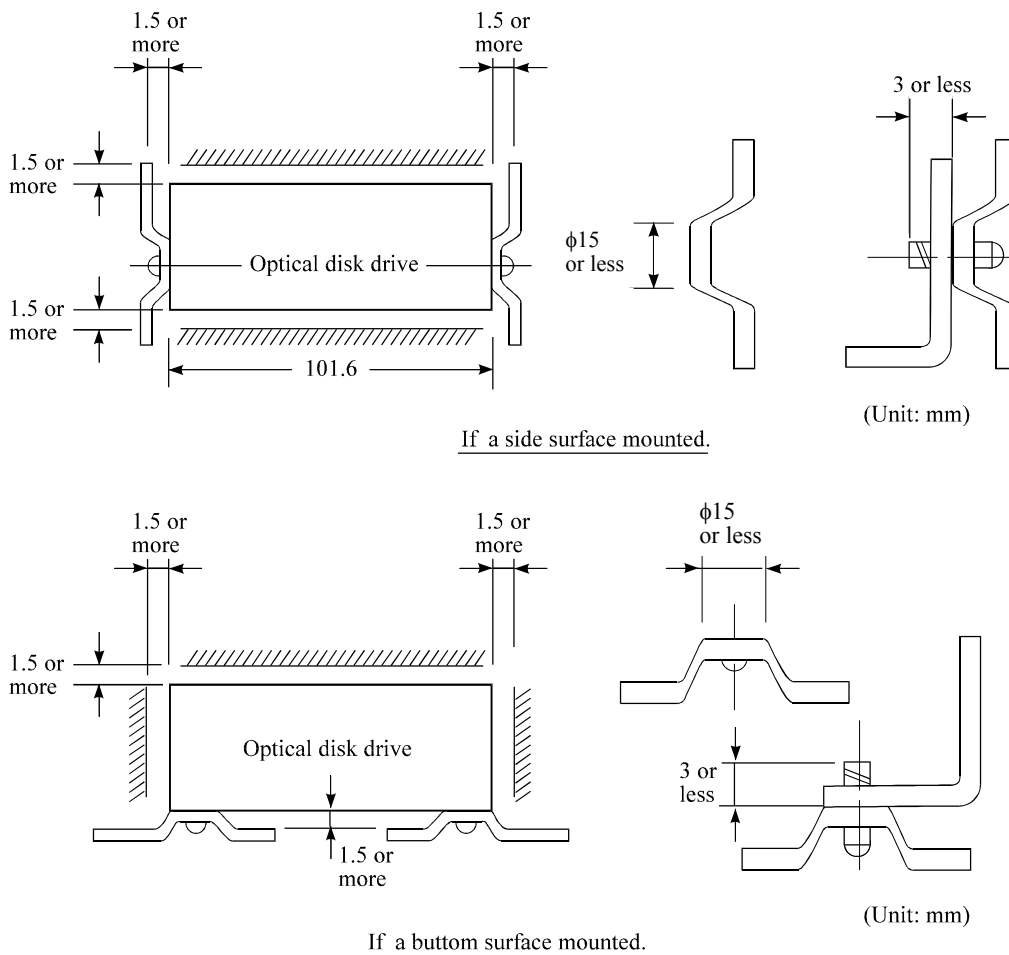

Figure 3.6 Mounting frame structure
(1) Mounting frame structure and clearance
- a) For vibration resistance and heat dissipation, this optical disk drive uses an embossed structure as shown in Figure 3.6, as well as a frame which has a construction similar to other frames which perform the same function.
- b) As shown in Figure 3.6, the inward projection of the mounting screw from the outer surface of the drive frame must not exceed 3 mm.